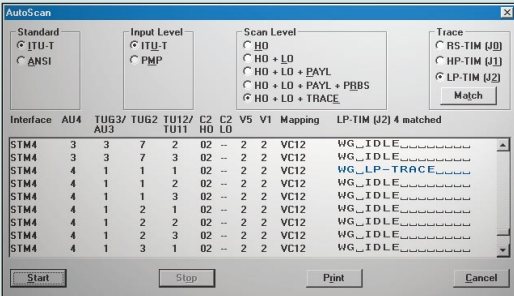

figure 4 AutoScan
*AutoScan function (figure 4)*